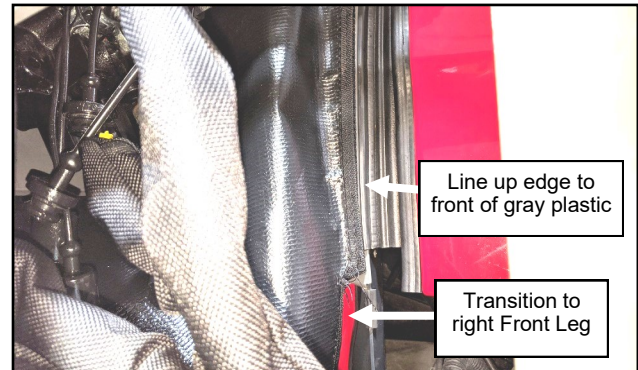

Fig. 20.7 (Transition Filler To Outside)
- 20.7 Line up the inner edge of the filler to the front of the gray plastic vehicle cowl and secure. See Figure 20.7. Transition the filler to the right Front Leg.